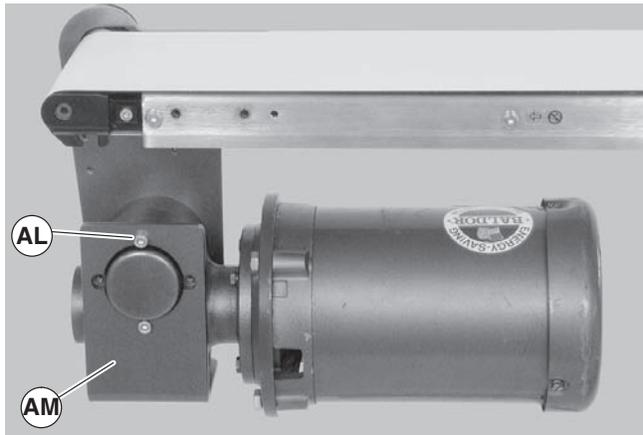

Figure 26
- Remove two (2) bracket screws (Figure 26, item AL) and remove bracket (AM).